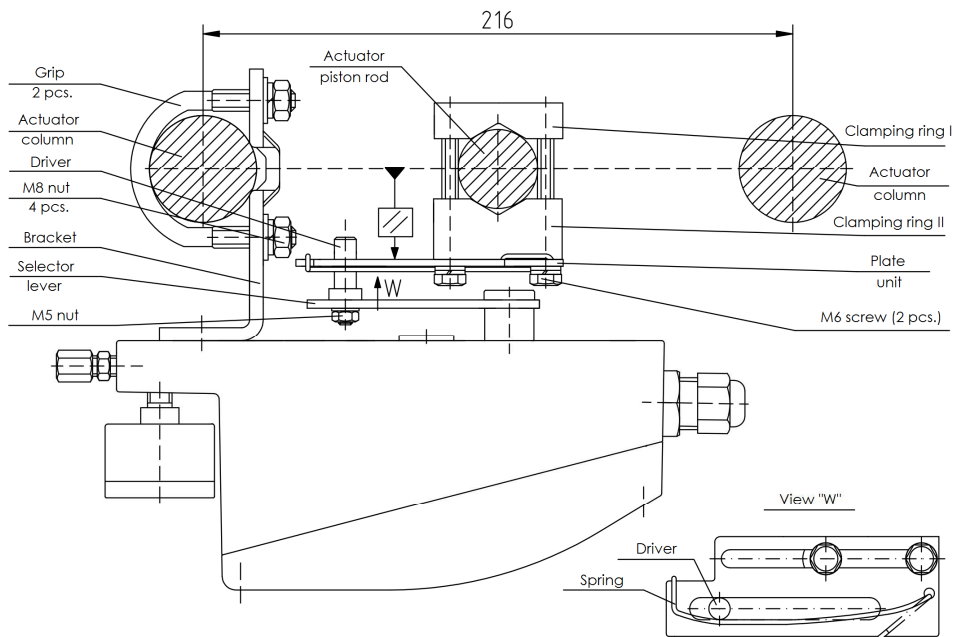

Fig. 11. APIS-100-... type positioner with mounting set APIS-A000
e) connect driver with actuator's piston rod by inserting of driver into correct cut-out in mounting plate unit – see view on Fig. 11, so as to selector lever will position horizontally in half of stroke ( 50 % ) ( in case of need – correct positioner of the positioner by adequate displacement on actuator's column ).